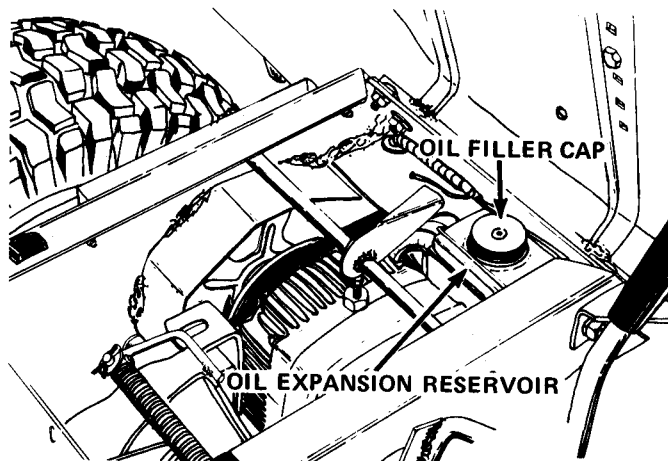

FIGURE 5
2. Raise the rear deck and remove the oil filler cap shown in Figure 5.